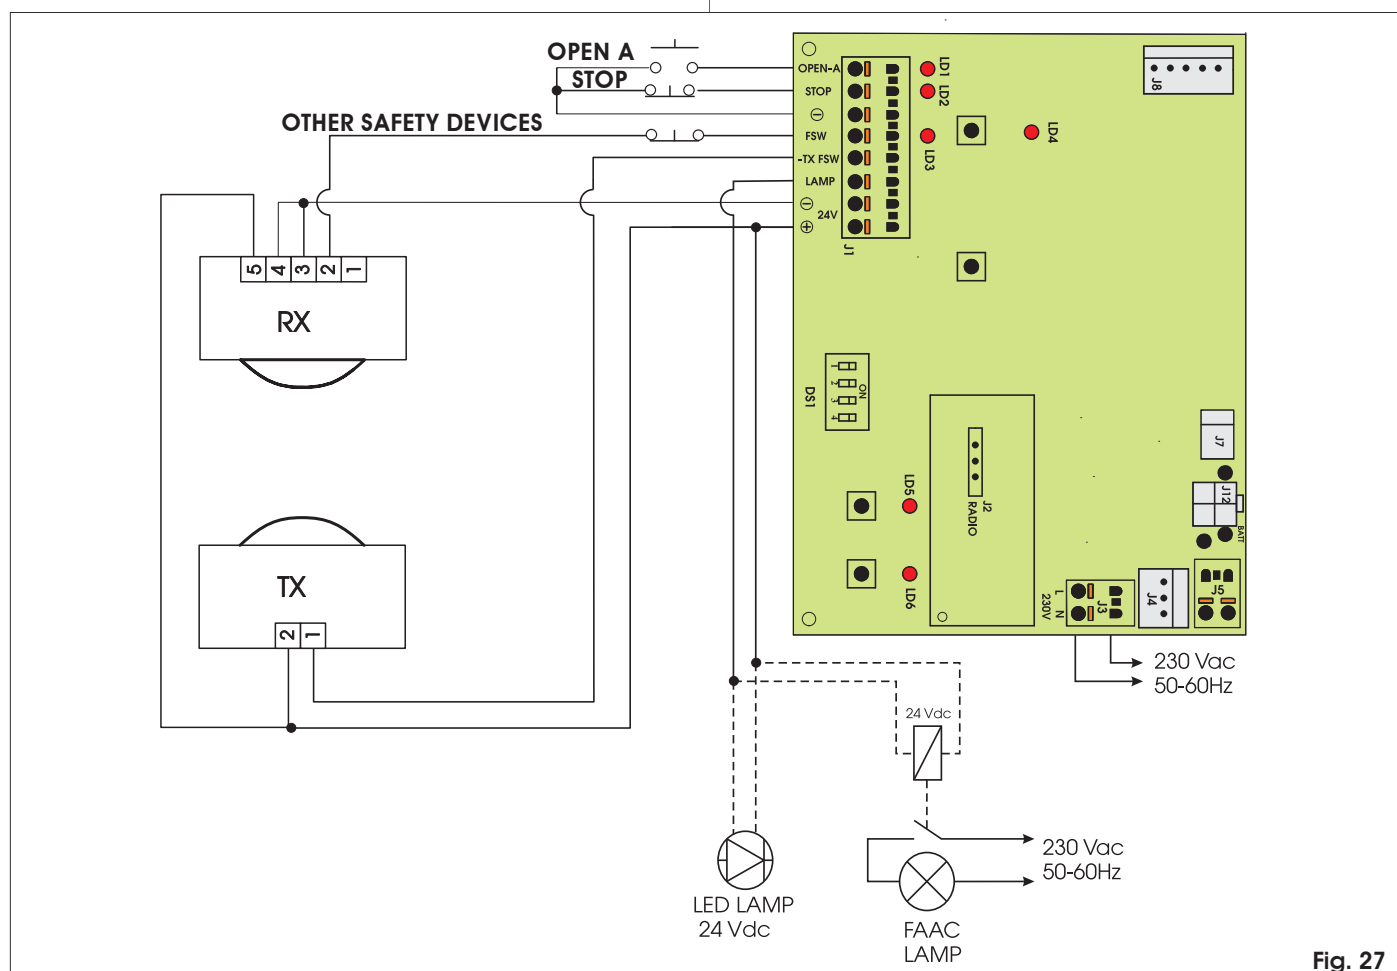

Fig. 27
- Make the electrical connections, referring to Fig. 27.